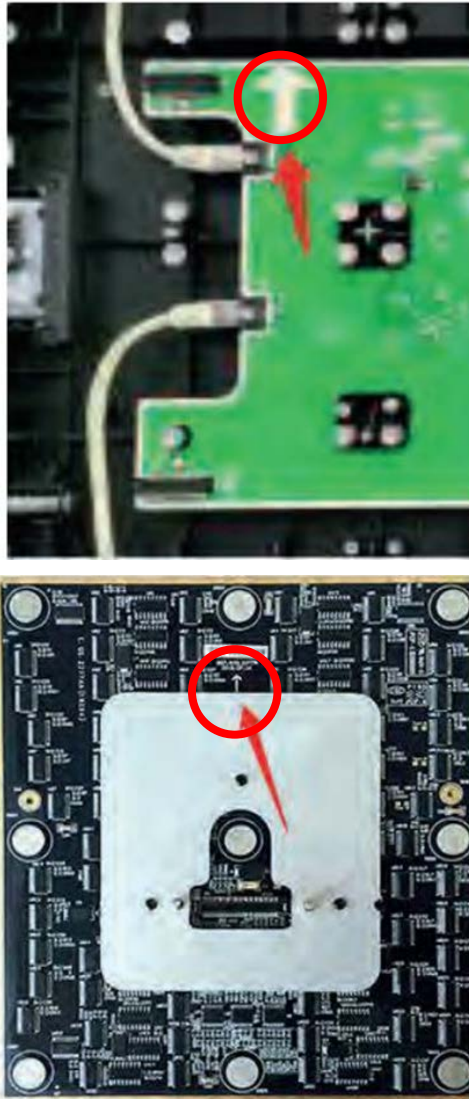

Figure 40
3. Orient the module with the receiving section of the panel so that the arrows shown in Figure 40 are pointed in the same direction..